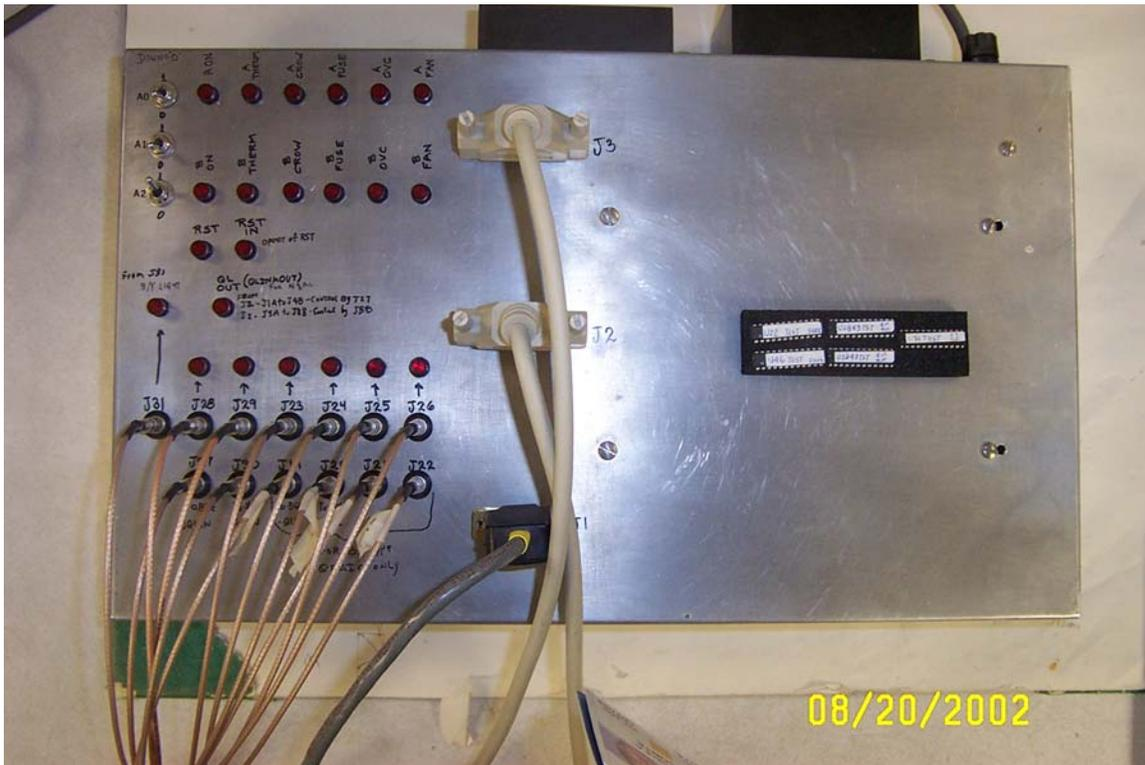

Figure 1
- 1) QPAIC Test Fixture. See figure 1.